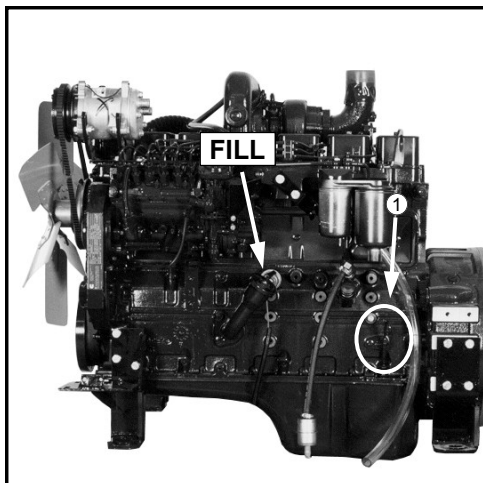

FIG 7.1
**OIL LEVEL** - The engine oil level dipstick is located on the left-hand side of the diesel engine (fig. 7.1, item 1) and the right-hand side of the gas engine (fig. 7.2). Never operate the engine with the oil level below the “L” (low) mark or above the “H” (high) mark. Wait at least five minutes after shutting off the engine to check the oil level; this allows time for the oil to drain to the oil pan. Check the engine oil level daily.